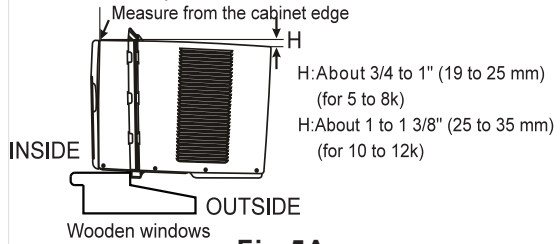
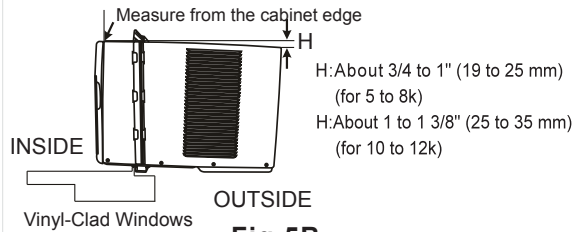

Fig.5A
Fig.5B
A. Keeping a firm grip on the air conditioner, carefully place the unit into the window opening so the bottom of the air conditioner frame is against the window sill (Fig. 5A and Fig. 5B) Carefully close the window behind the top rail of the unit.